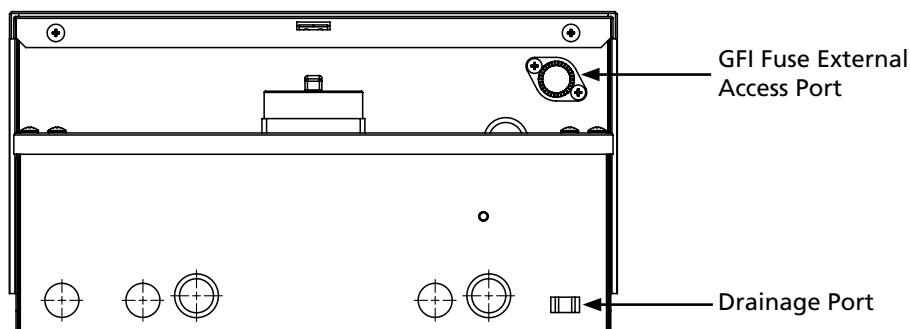

Figure 3-5 Communications, AC and DC Ports
Each section has one to three knockouts. UL 1741 requires a straight run of conductor, with no loops or crossover to the other circuits (sections) and low voltage versus high voltage in each section (see Figure 3-5).
7. Remove the 1A fuse from the external port by unscrewing the cap housing the fuse. Refer to Figure 3-5.